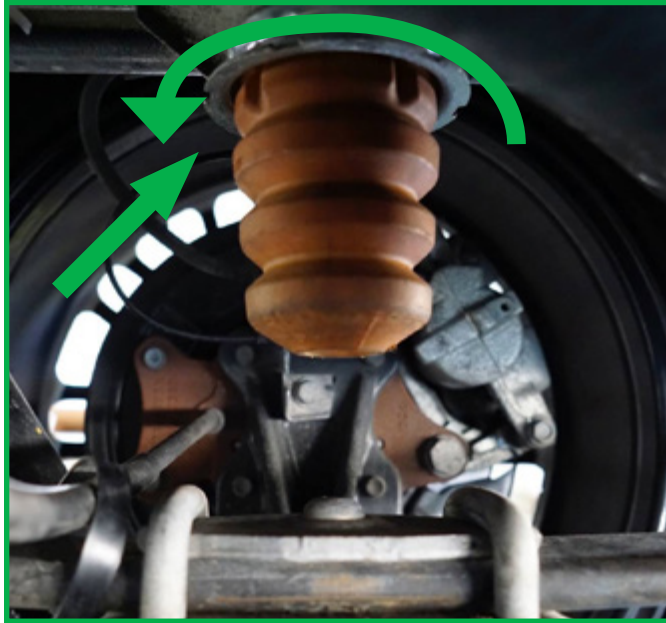

FIGURE 1
1. Remove serial bump stop by releasing with a hooked tool twisting out the frame. (Figure 1)